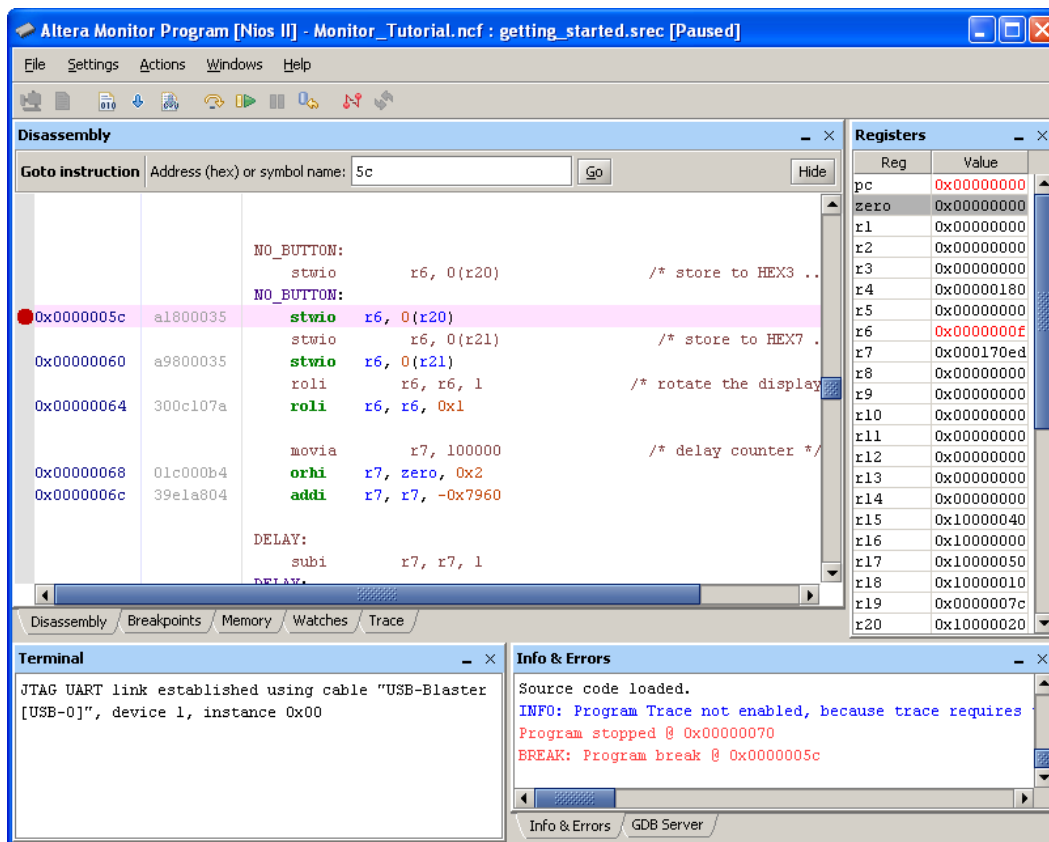

Figure 20. Setting an instruction breakpoint.
- Click on the gray bar to the left of the address `0000005c` in the Disassembly window. As illustrated in Figure 20 the Monitor Program displays a red dot next to the address to show that an instruction breakpoint has been set. Clicking the same location again removes the breakpoint.